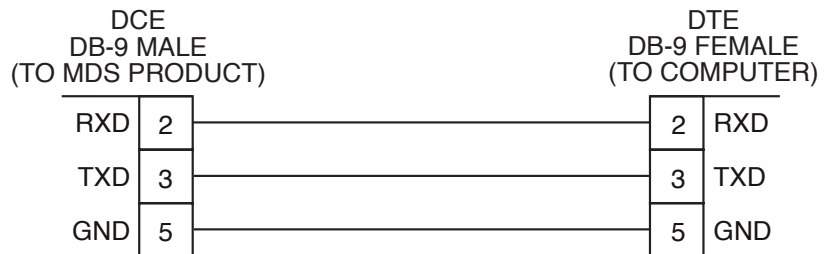

Figure 3-5. Serial Communications Cable (DB-9M to DB-9F)
1. Connect a serial communications cable between the PC and the unit's COM 1 port. If necessary, a cable may be constructed for this purpose as shown in Figure 3-5.